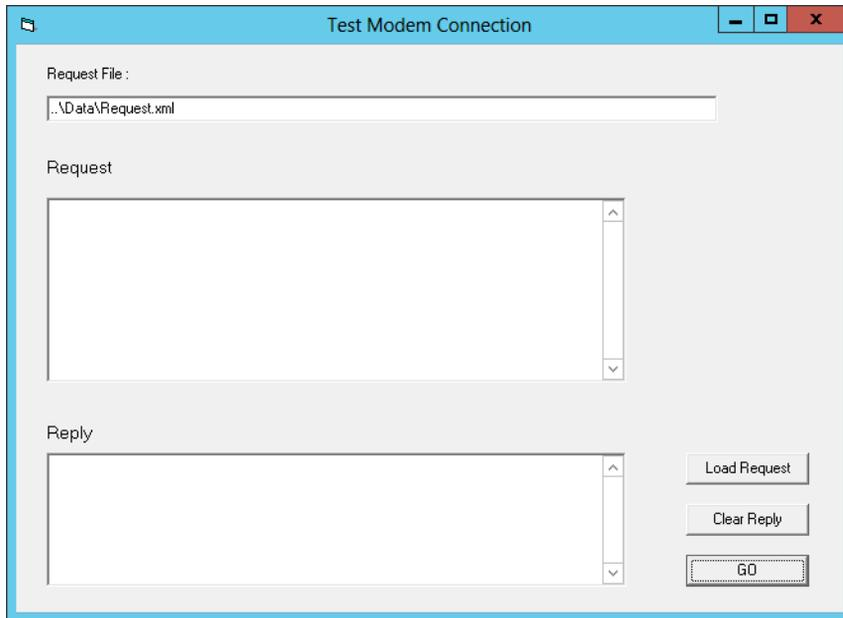

Figure 96. Test Modem Connection Dialog Box
2. Double-click on **TestModemObj.exe**. The Test Modem Connection dialog box shown in Figure 96 appears.